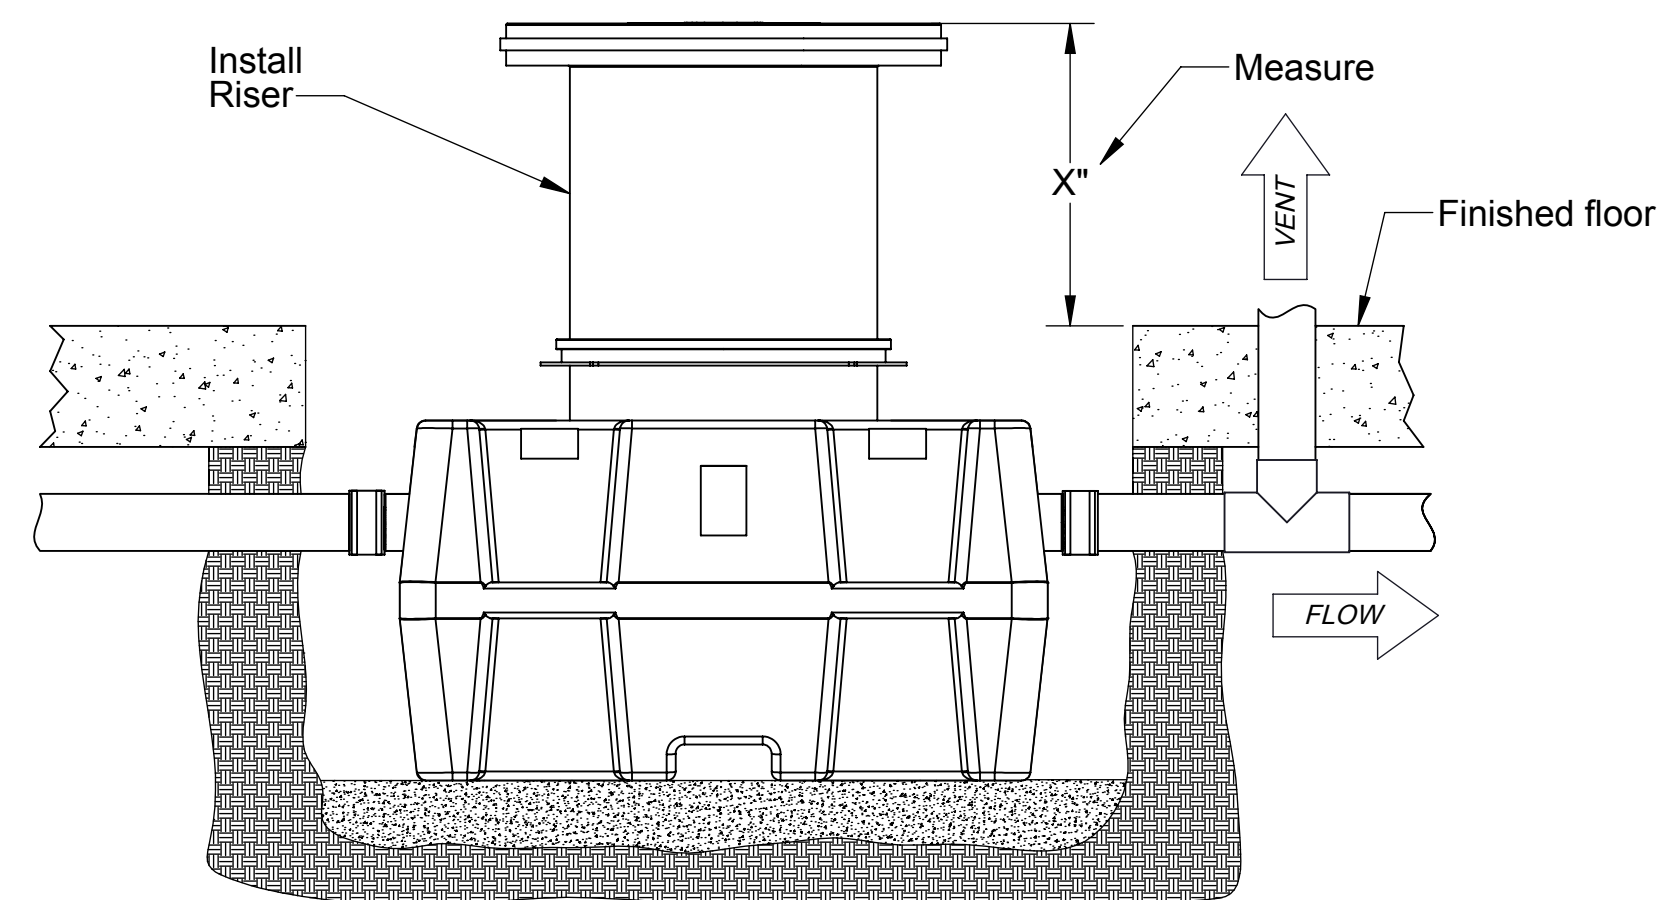

Figure 2
4. Push riser into ring until it stops (about 1 inch). See Figure 2.
5. Measure the distance from the top edge of the riser down to the finished floor. Make sure to account for any future tile work in your measurement. See Figure 2.